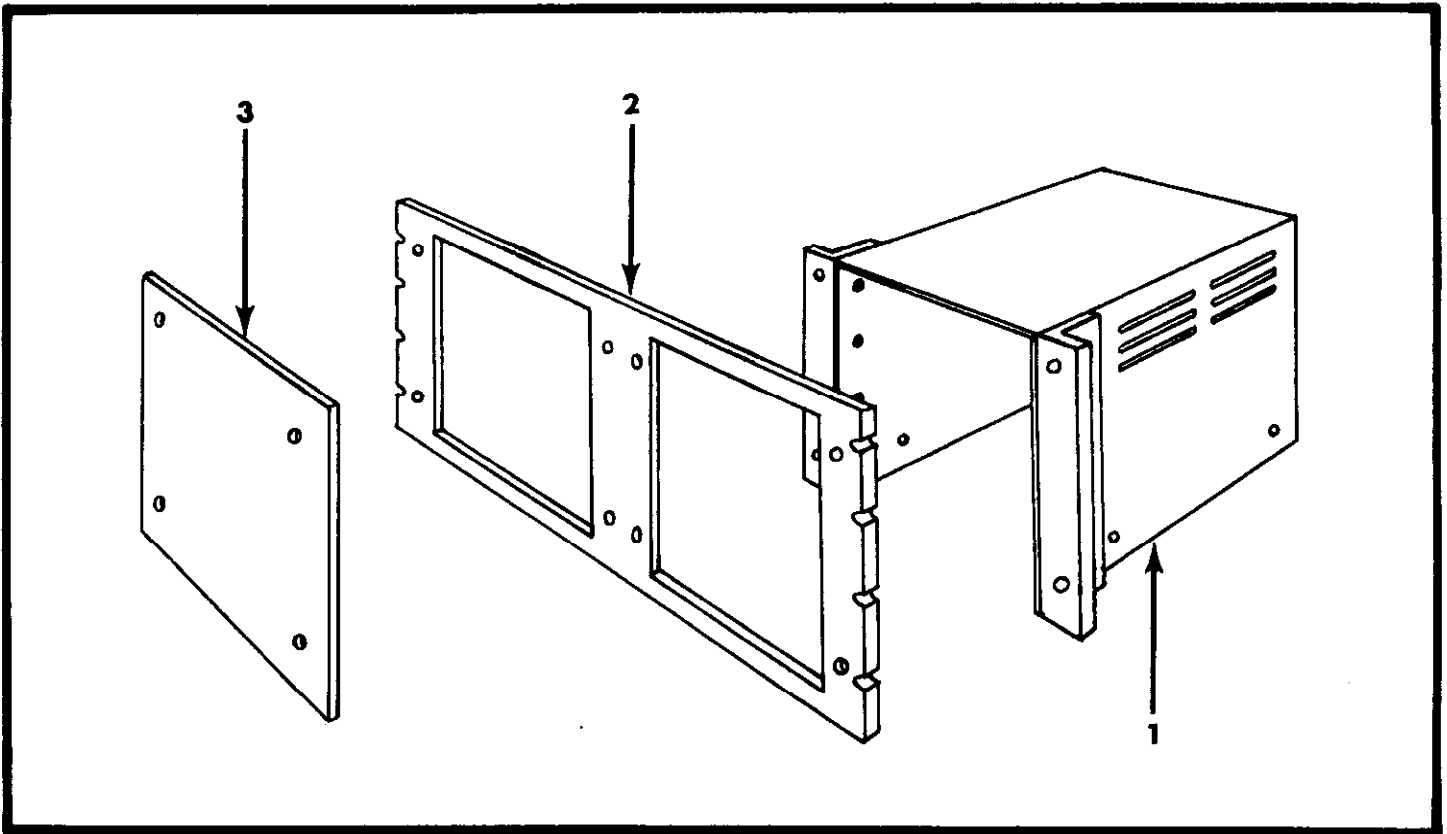

FIGURE 40. Exploded View of Model 4005 Rack Mounting Kit. Refer to Table 7 for parts list.
7-10. RACK MOUNTING (See Figure 40).
| Item (See Fig. 40) | Description | Keithley Part No. | Quantity |
c. Insert the top cover assembly (1) in place and fasten to the chassis with the four screws previously removed. Attach the mounting panel (2) to the rack with four #10 screws and kep nuts. Fasten the Model 601 to the mounting panel with four #10 screws. Fasten the filler panel (3) to the opening in the mounting panel with four #10 screws and kep nuts.
d. If two Model 601 Electrometers are to be rack mounted side-by-side, another top cover assembly (Keithley Part 19525B) is used instead of item 1 in Figure 40. The filler panel (3) is not used. This Kit will also hold any two Keithley models whose bench dimensions are 10-1/2 inches high x 6-5/8 inches wide x 10 inches deep.